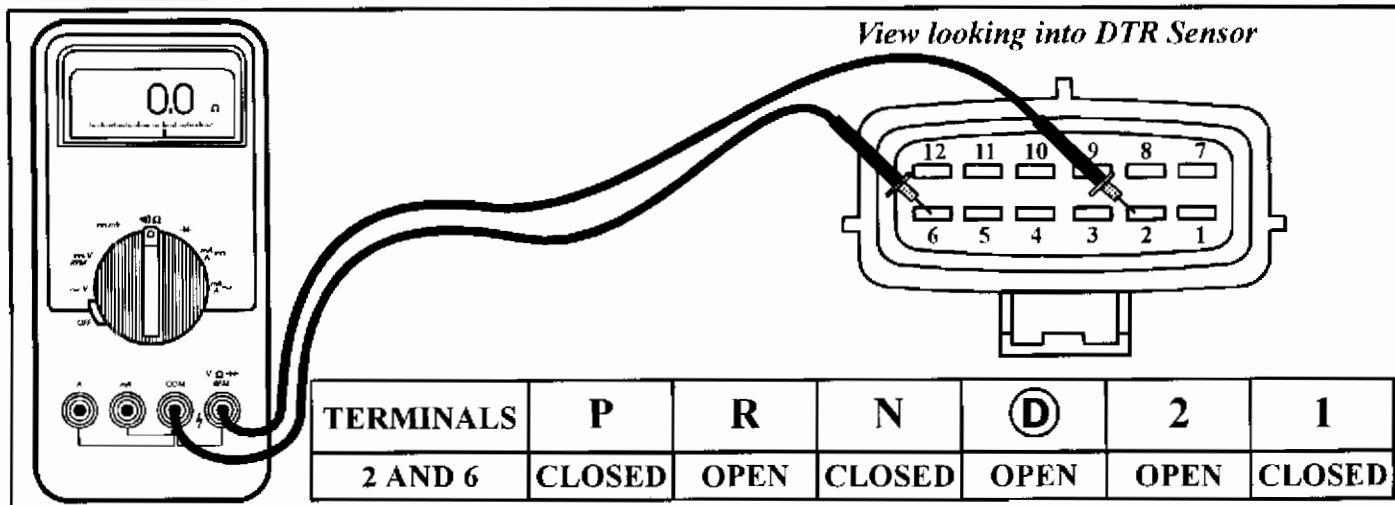

Figure 7
- (4) Testing the transmission range 4 switch is done across pins 2 and 6 of the DTR sensor, and must be checked in each selector position to determine switch integrity. Refer to Figure 7.